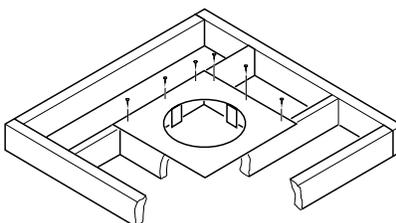

**Figure 34 - Offset with Wall Strap and 45° Elbows**
1. Determine the route your vertical venting will take. If ceiling joists, roof rafters, or other framing will obstruct the venting system, consider an offset (see Figure 34) to avoid cutting loadbearing members. *Note:* Pay special attention to these installation instructions for required clearances (air space) to combustibles when passing through ceilings, walls, roofs, enclosures, attic rafters, etc. Do not pack air spaces with insulation. Also note maximum vertical rise of the venting system and any maximum horizontal offset limitations. Offsets must fall within the parameters shown in Figure 23 on page 10.
*Note:* If an offset is needed to avoid obstructions, you must support the vent pipe every 3 feet. Use wall straps for this purpose (see Figure 34). Whenever possible, use 45° elbows instead of 90° elbows. The 45° elbow offers less restriction to the flow of the flue gases and intake air.
5. Place the flashing over the pipe section(s) extending through the roof. Secure the base of the flashing to the roof and framing with roofing nails. Be sure roofing material overlaps the top edge of the flashing as shown in Figure 34. There must be a 1" clearance from the vent pipe to combustible materials.